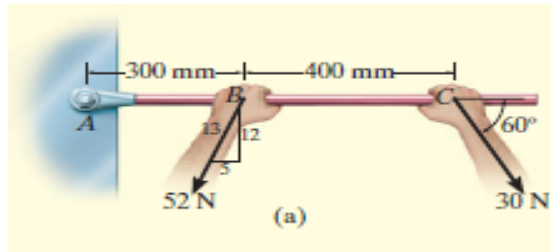

Figure 3
3. The box wrench in Fig. 3 is used to tighten the bolt at A. If the wrench does not turn when the load is applied to the handle, determine the torque or moment applied to the bolt and the force of the wrench on the bolt.